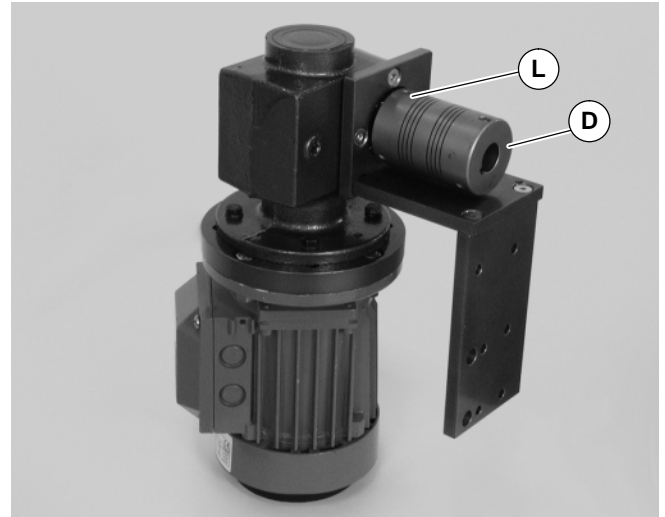

Figure 10
4. Remove two (2) set screws (L of Figure 10) and remove coupling (D).
13. Attach coupling (D of Figure 10) to gear reducer shaft. Tighten two (2) set screws (L) to 33 in-lb (3.7 Nm).